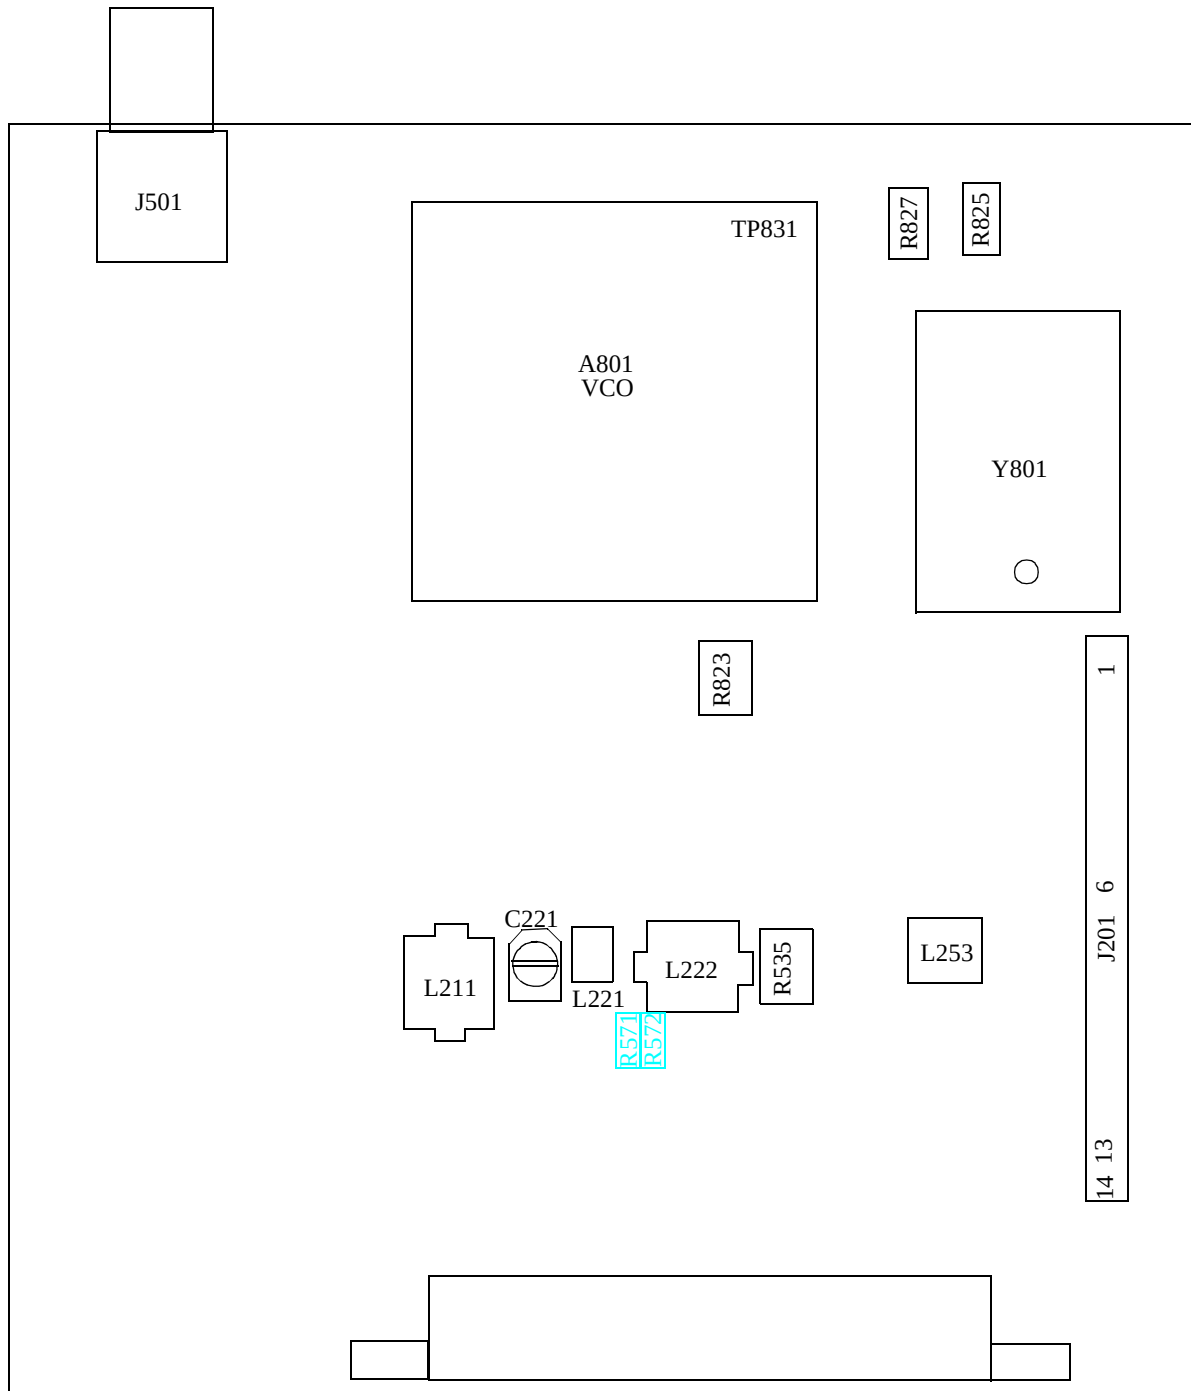

Figure 6-4 ALIGNMENT POINTS DIAGRAM
1. Connect a DC voltmeter to the junction of R822/R823 and adjust R823 for 2.10V DC ± 0.05 V DC (see Figure 6-4).
1. Check that R571 is installed and R572 is removed on Revision 2 or earlier boards (see Figure 6-4).